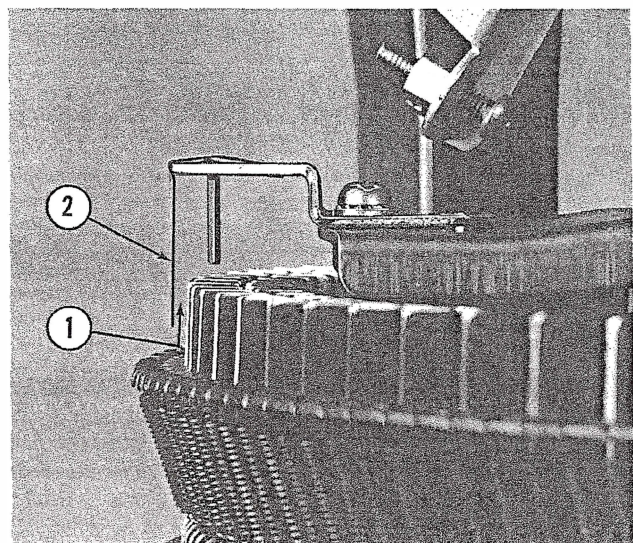

Fig. 38. ELECTRIC SELECTOR CENTERING
(1) Centering clip 117006 may be used as shown in Figure 38, Item 2 of the 200 selector assembly where centering shaft #69247 is not available.